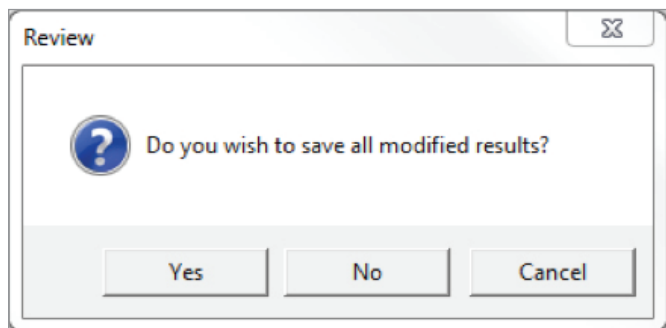

Figure 1. Save results message when exiting from Review.
- **Prompt user to save manual changes made in Review** – If a user exits from Review after creating a result(s) they will be prompted to save the result(s). In Figure 1 the message reads, “Do you wish to save all modified results?” If users save results at this point, it will automatically save the last version of all results and any related changes (i.e. calibration curves or methods).